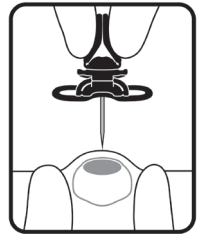

Figure 3
6. Using the forefinger and middle finger, locate and stabilize the vascular access port. Position the needle over the port and insert needle perpendicular into vascular access port by pressing down with thumb and index finger of the dominant hand while aiming for the port septum (Fig. 3).